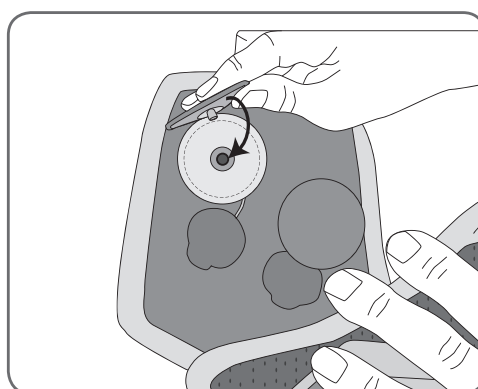

Figure 8-28: Snapping the L300 cloth electrodes to the L300 cloth electrode bases.
4. Snap the L300 cloth electrodes to the cloth electrode bases in the L300 FS Cuff. See Figure 8-28.